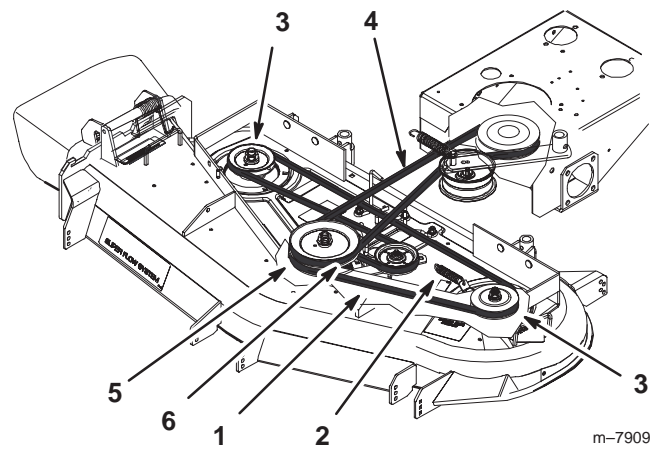

Figure 65
5. Disconnect the idler arm spring to relieve tension on the idler arm and idler pulley, then remove the worn deck belt (Fig. 65).
6. Install the new deck belt around the two outside spindle pulleys, the idler pulley, and in the lower groove of the center spindle pulley (Fig. 65).
7. Connect the idler arm spring (Fig. 65).
9. Adjust deck belt guide an 1/8 inch (3 mm) from belt (Fig. 65).